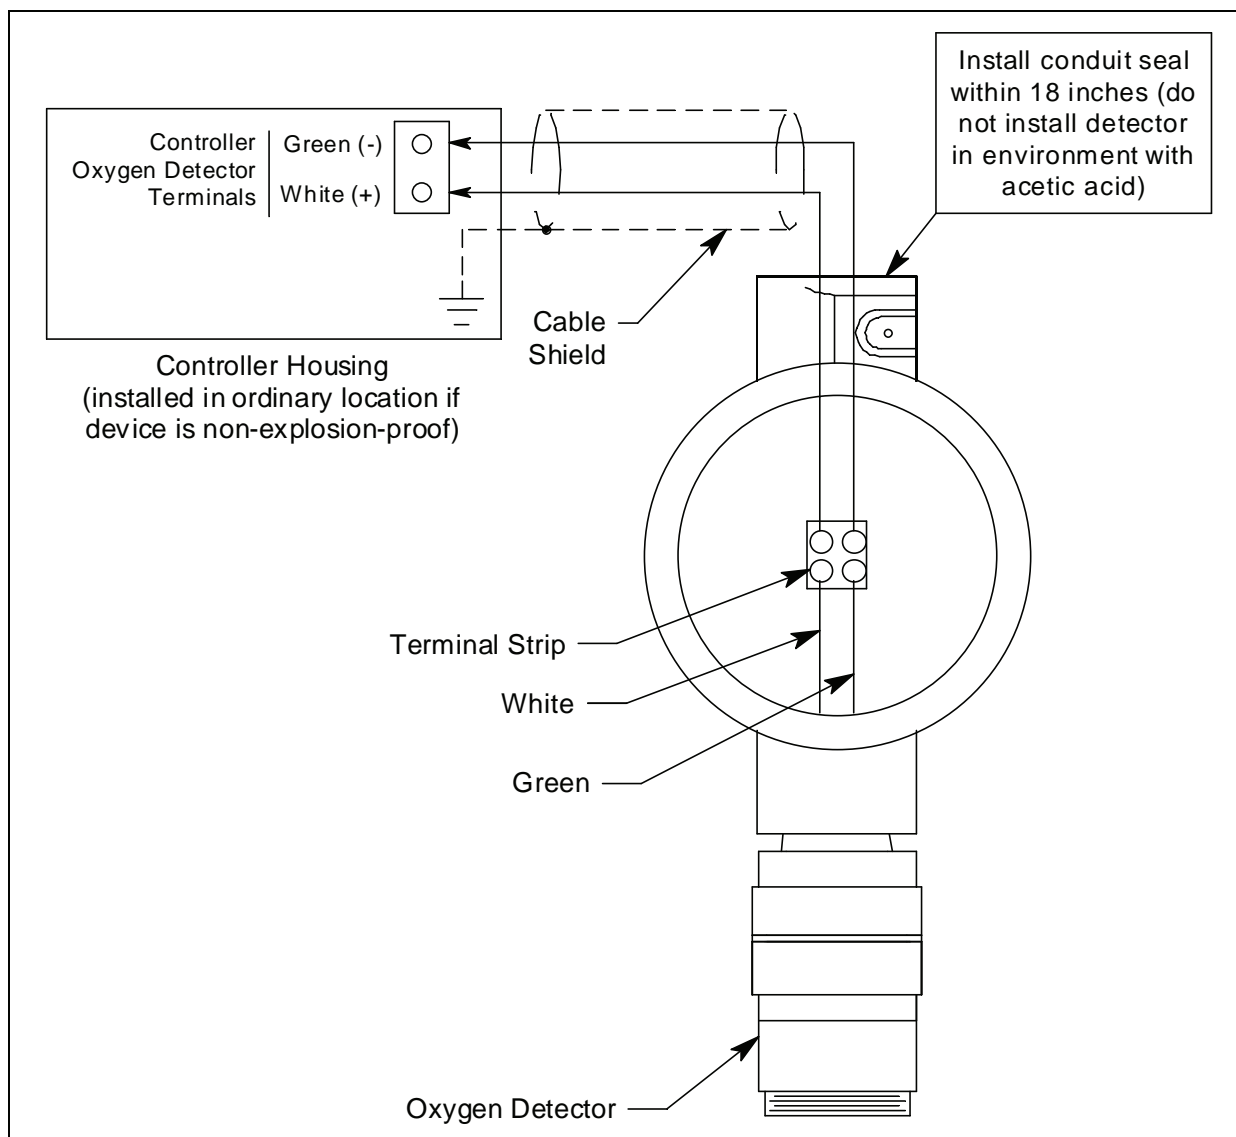

Figure 3: Wiring the Oxygen Detector to a Controller
9. Connect the wires to the applicable controller terminal strip as shown in Figure 3 below. See the controller operator's manual and the controller's detector head specification sheet for wiring information specific to a controller.